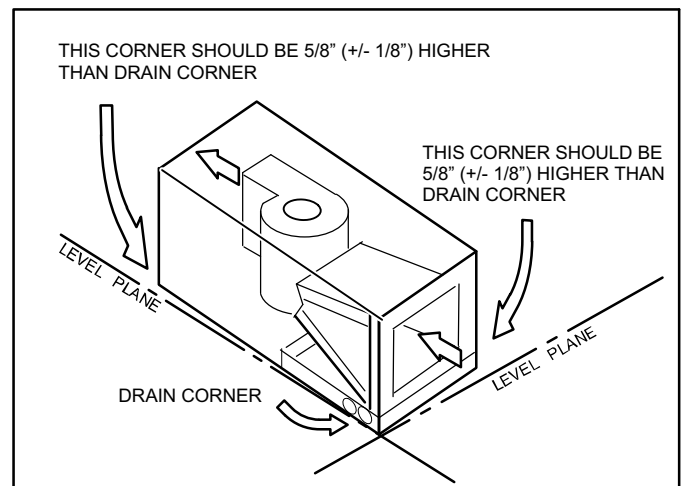

Figure 10. Sloping the Unit for Proper Drainage
3. Set unit so that it is sloped toward the drain pan end of the unit (see figure 10).
Make sure the unit is sloped (similar to the slope shown in figure 10) (horizontal or upflow) so that the drain pan will empty completely without water standing in the pan.